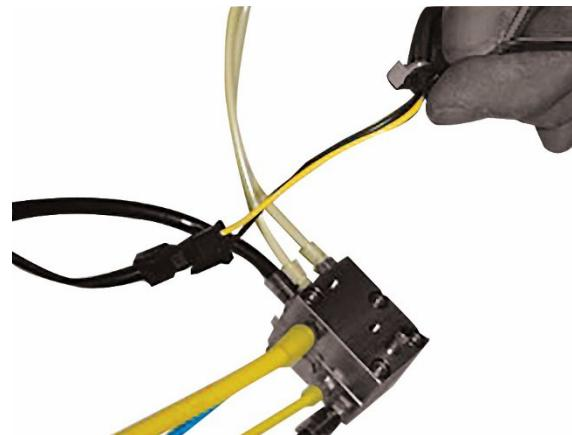

Fig. 10
- 15 Locate the drive air port in the front of the new single control block and connect to a handpiece tubing connection or, for electric instruments (ultrasonic and rotary units), to the normally opened (N/O) air electric switch that then attaches to the instrument wiring harness. (Fig. 10).